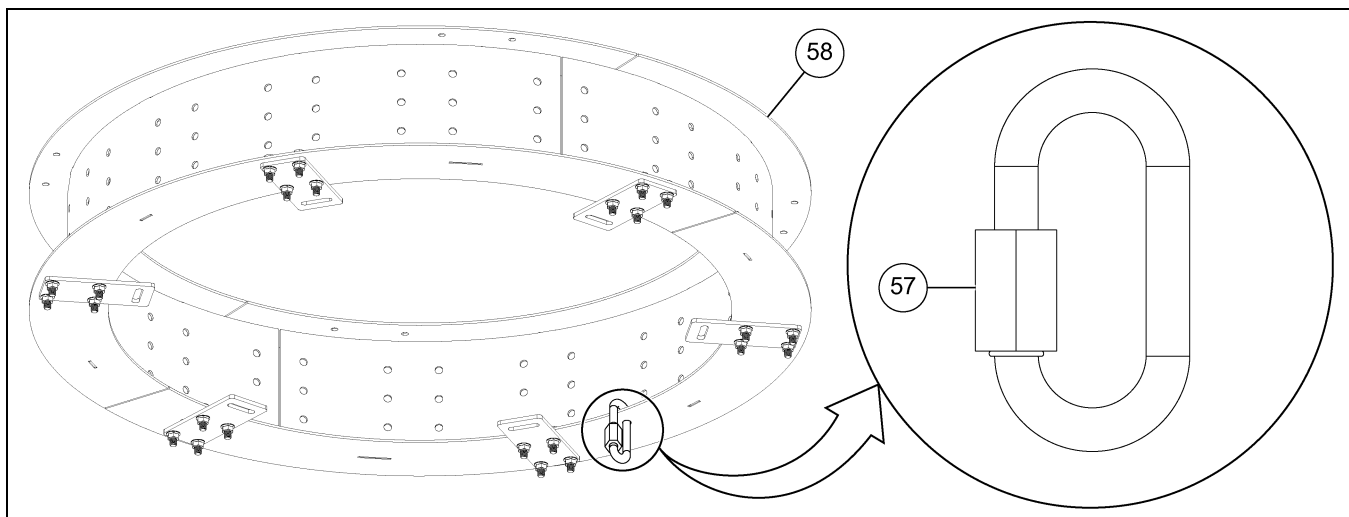

Figure 4S Supplier Quick Link on the Center Collar (View from Bottom Side of the Center Collar)
5. Locate the cable hole in the bottom flange of the center collar assembly and install a supplier link (57), allowing for the installation of a temperature cable at this location. (See Figure 4S.)